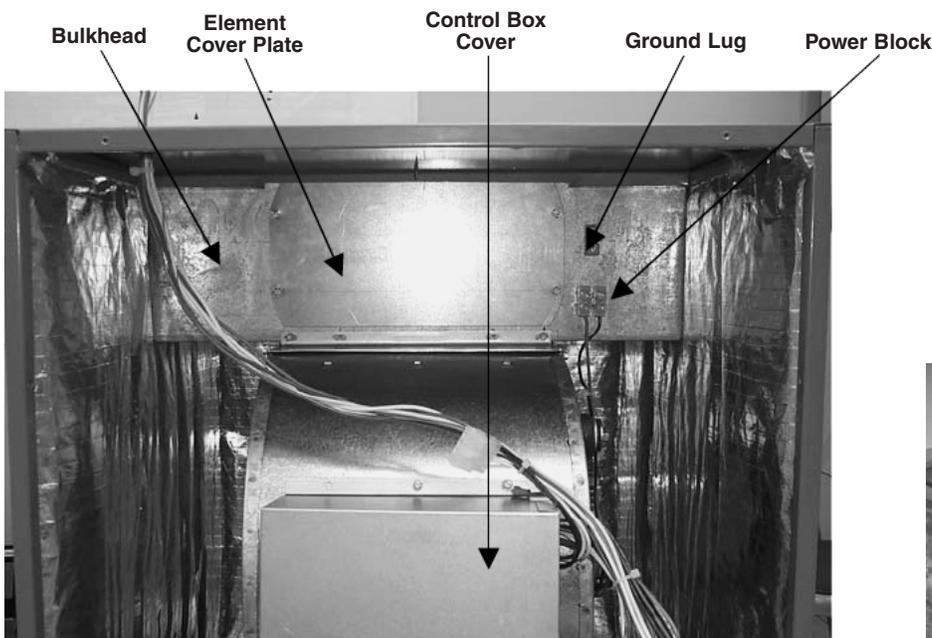

Figure 1
3. Remove heater element cover plate and discard. Keep the screws for heater kit installation. (Fig 1)